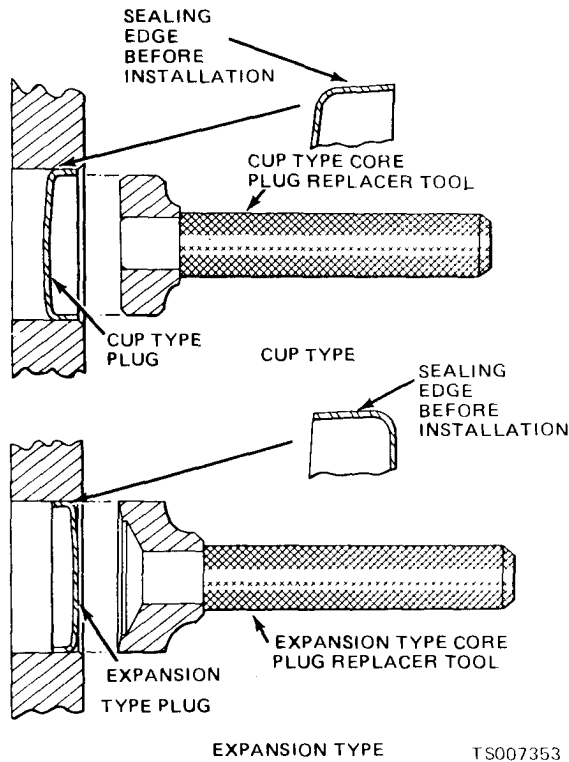

Figure 6-24. Core Plug Installation
(1) Coat the plug and bore lightly with an oil resistant or water resistant sealer and install as follows :
(2) Cup type core plugs (fig. 6-24) are installed with the flanged edge outward. The maximum diameter of this plug is located at the outer edge of the flange. The flange on cup type plugs flares outward with the largest diameter at the outer (sealing) edge.
(3) It is imperative to pull the plug into the machined bore by using a properly designed tool. Under no circumstances is the plug to be driven into the bore using a tool that contacts the flange. This method will damage the sealing edge and will result in leakage and/or plug blow out.
(4) The flanged (tailing) edge must be below the chamfered edge of the bore to effectively seal the plugged bore.
(5) If the core plug replacing tool has a depth seating surface, do not seat the tool against a non-machined (casting) surface.